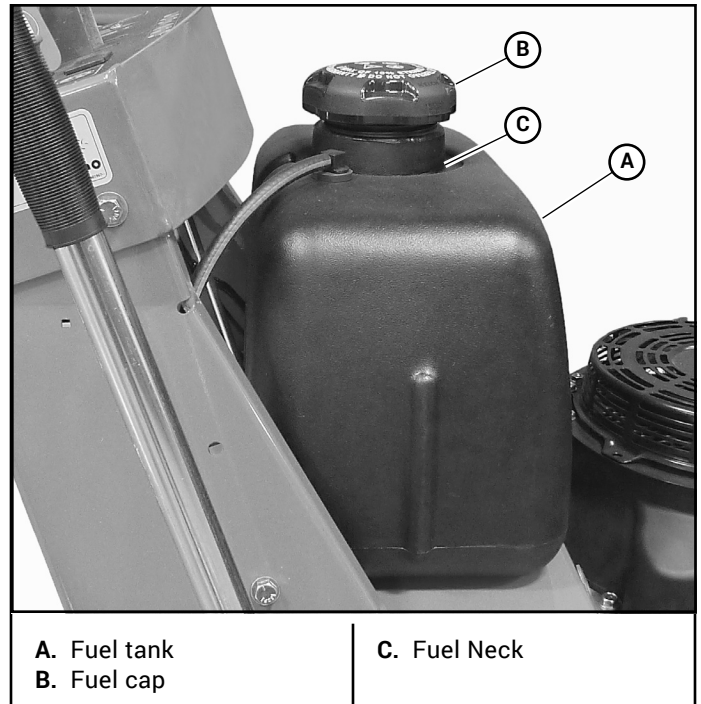

Figure 4-4
**IMPORTANT:** Do not overfill the fuel tank. The fuel tank should be filled no higher than the bottom of the fill neck. Figure 4-4 The fuel system is designed to leave room for the fuel to expand with fuel temperature changes. Stop filling the tank after the fuel nozzle automatically clicks off.
The 5.0 U.S. gallon (18.9 liter) fuel tank is located behind the engine. Figure 4-4